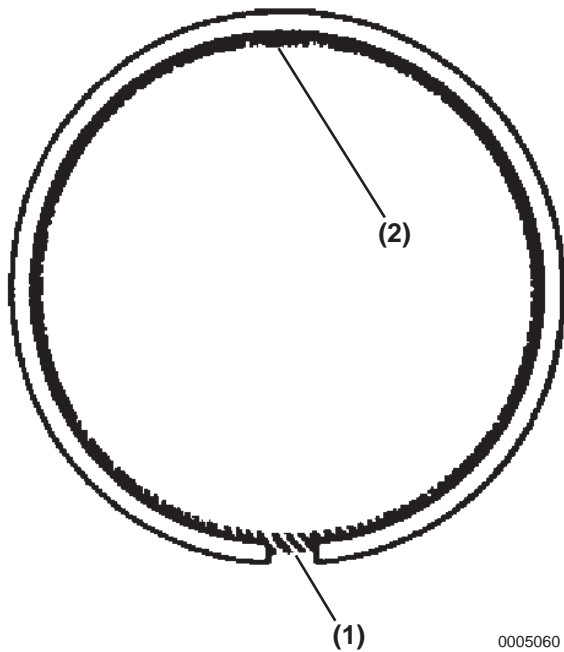

Figure 5-137
7. Using a piston ring expander, install the oil ring with the end gap **(Figure 5-137, (1))** facing the opposite side of the coil joint **(Figure 5-137, (2))**.